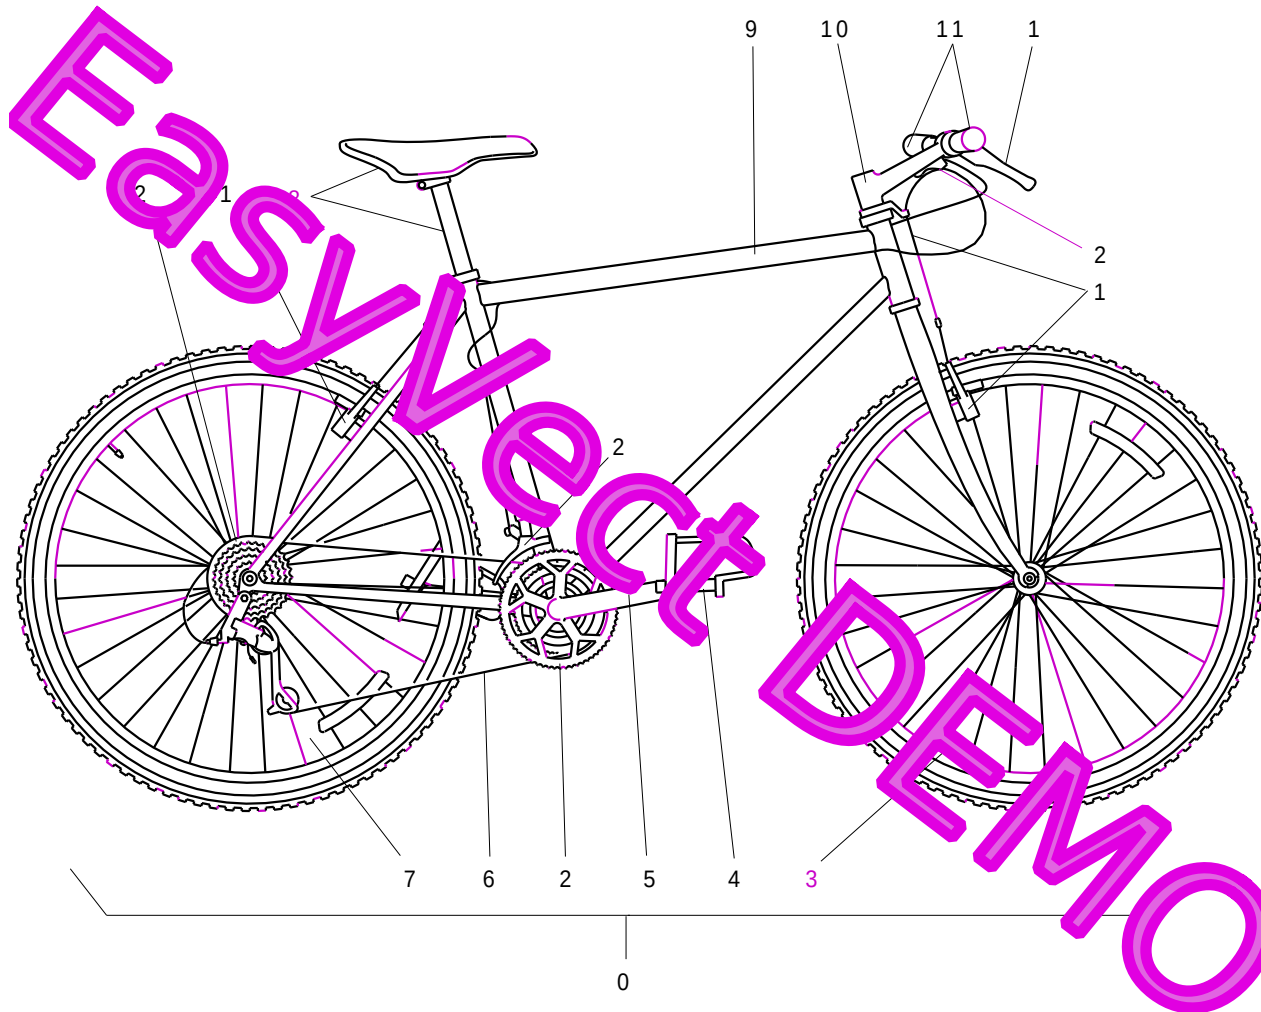

Figure 1 Complete bicycle (Sheet 1 of 1) (Applicable to: All)
<a href="#">Figure 1 Complete bicycle (Sheet 1 of 1)</a>
A bicycle (refer to Figure 1 \(Sheet 1 of 1\)) is a frame and a number of movable components with mechanical parts that are completely open. There are no covers or sheet metal panels that prevent access to the mechanical parts. Thus, you can disassemble the different components of a bicycle (refer to Figure 1 \(Sheet 1 of 1\) item 0) to do:
Figure 1 Complete bicycle \(Sheet 1 of 1\) \(Applicable to: All\)
- Rear wheel	<a href="#">Figure 1 (Sheet 1 of 1) item 7</a>
- Front wheel	<a href="#">Figure 1 (Sheet 1 of 1) item 3</a>